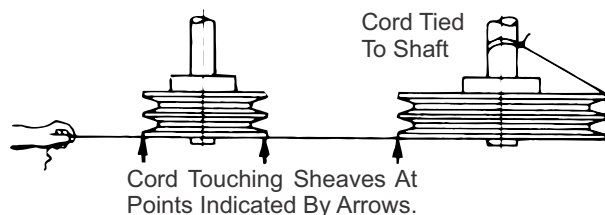

FIGURE 16
1. Fan and motor shafts must be parallel; adjust and shim motor as required. See Figure 16.
2. Fan and motor sheaves must be aligned axially. See Figure 16.